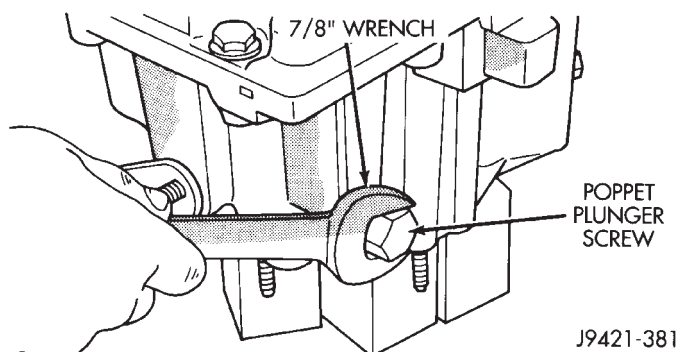

Fig. 18 Poppet Screw Removal
- (6) Support adapter on 3-4 small wood blocks (Fig. 18). Position blocks under transmission mounting surface of front case and between studs.